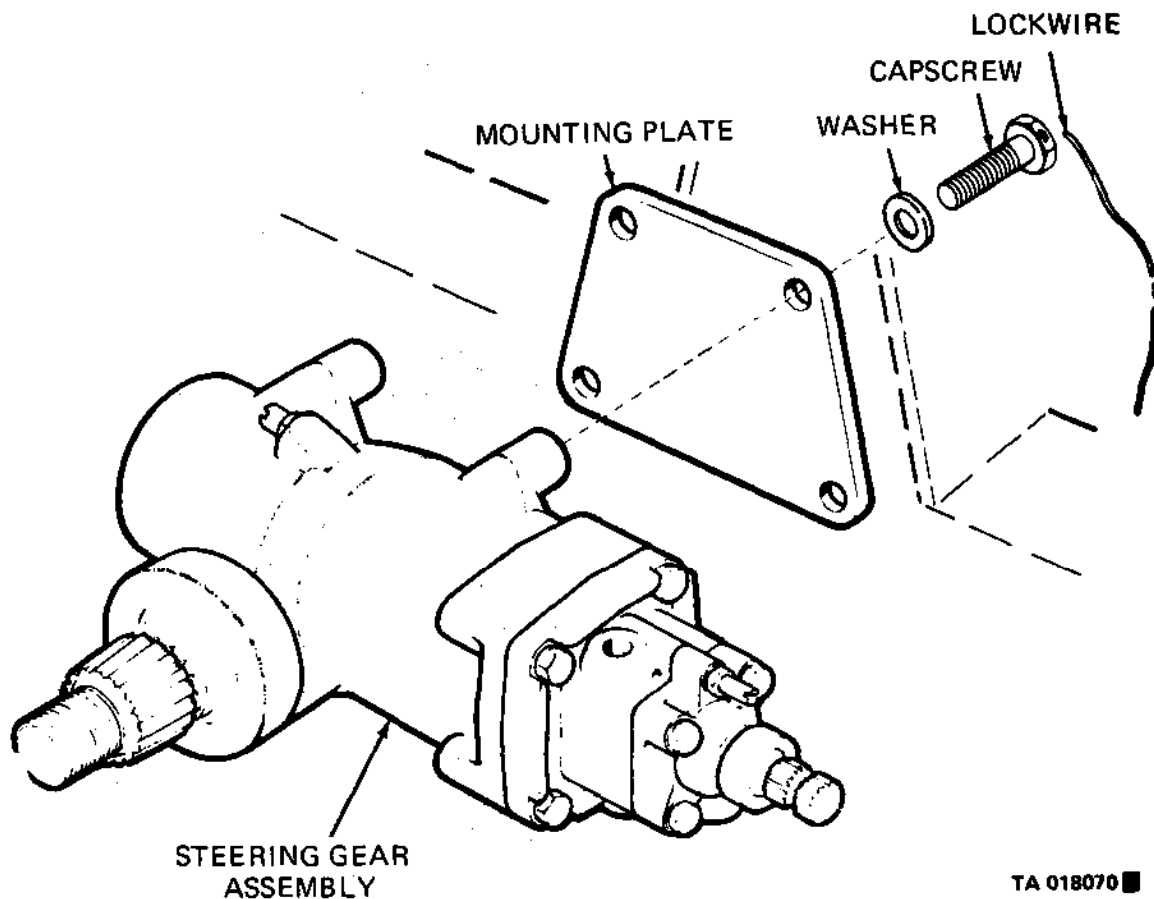

Figure 175.6. Steering gear assembly and attaching parts - exploded view.
(8) Remove radiator assembly, refer to TM 9-2320-211-20.
(9) Remove four capscrews and lockwashers securing steering gear assembly to vehicle frame and remove mounting plate (fig. 175.6).
(1) Install mounting plate and steering gear assembly to truck chassis with four capscrews and
washers. Torque capscrews (dry threads) to 260-280 lb.-ft (fig. 175.6). Lockwire top two (2) bolts together and bottom two (2) bolts together.
(2) Install radiator assembly, refer to TM9-2320-211-20.